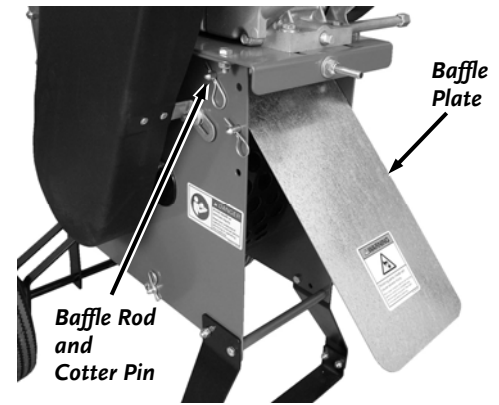

Figure 25
1. Remove the Baffle Rod and Cotter Pin to remove the Baffle Plate (**Figure 25**).